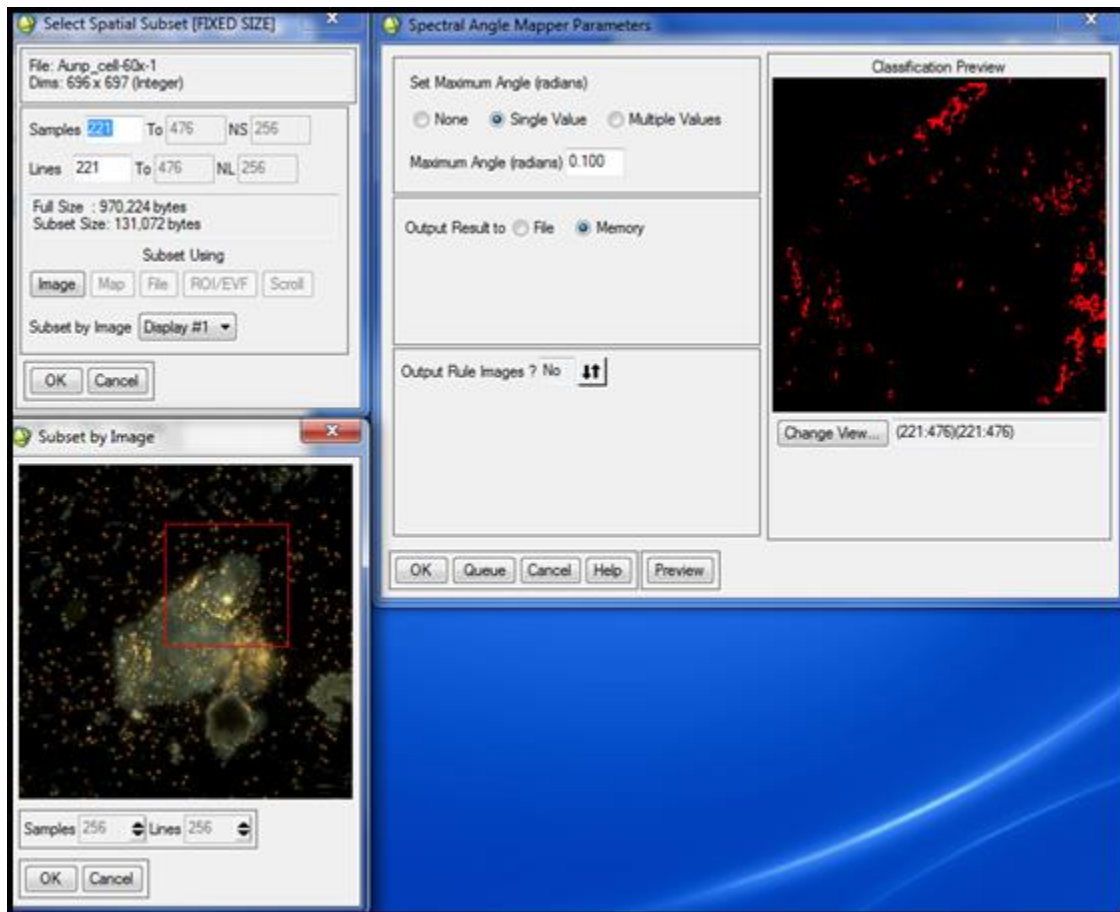

Figure 5.2o. Spectral Angle Mapper Parameters box, Select Spatial Subset box, Subset by Image
- Move the red square to the desired area (Figure 5.2o).